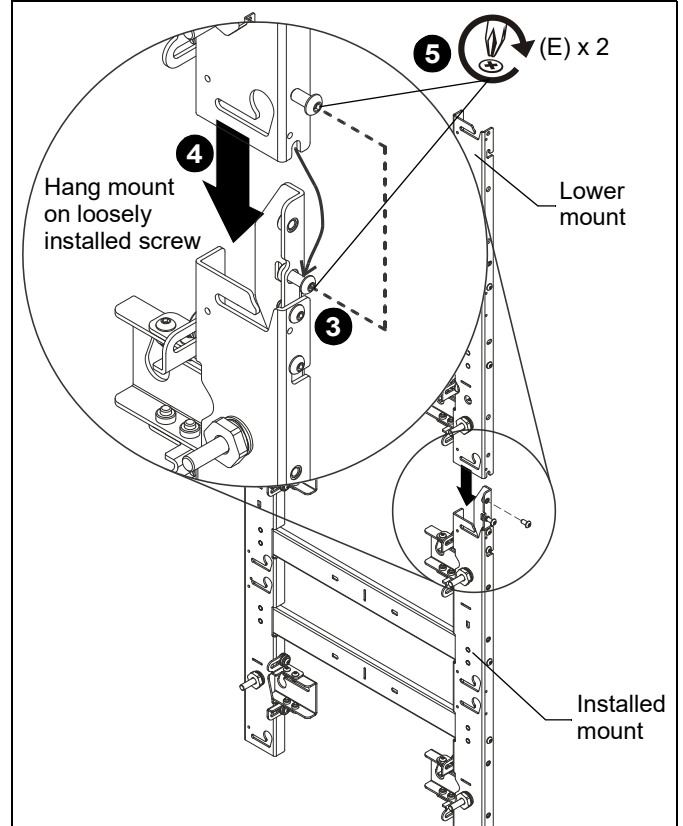

Figure 22
3. Make sure the 1/4-20 x 1/2" Phillips head screw (M) is already loosely installed in the vertical connector (L) on both sides of the mount. (See Figure 22)
5. Install two 1/4-20 x 1/2" Phillips head screws (M) into upper hole on both vertical connectors, and tighten all screws. (See Figure 22)